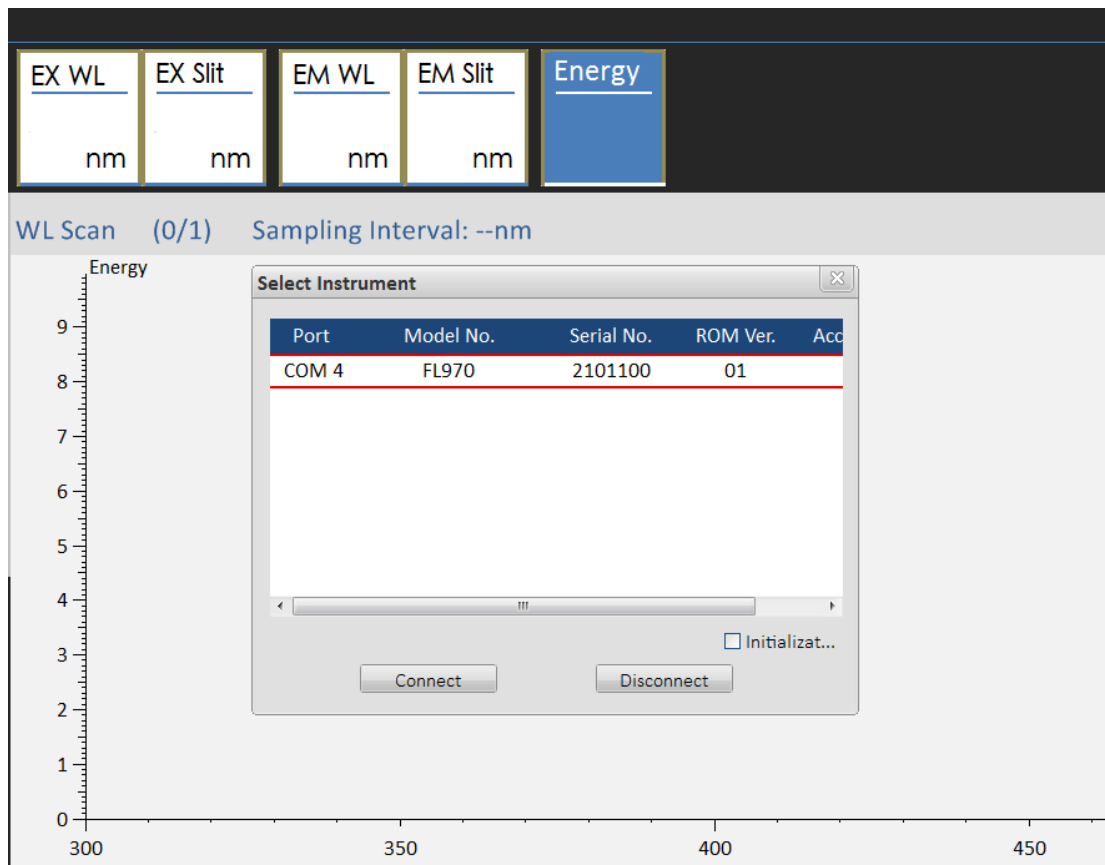

Figure 3-1 Connection window of FL970 and the software
3) As shown in Figure 3-1, the software will automatically identify the instruments connected to COM1 to COM8 and display information such as instrument model, serial number, software version number and connection of optional accessories.